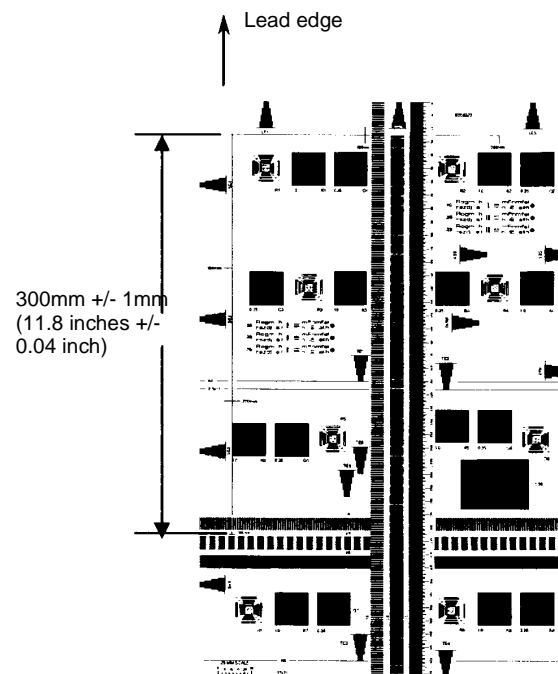

Figure 2 In process direction magnification
- b. To check the in process direction magnification: measure the 300mm line running from near LE1 to the trail edge of the 1.8lp ladder. Check that the dimension is 300mm +/- 1mm (11.8 inches +/- 0.04 inch). Refer to Figure 2.